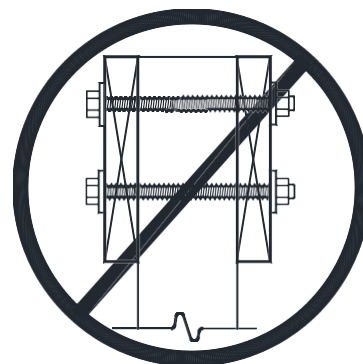

FIGURE 18: PROHIBITED CONNECTION
- Beams shall not be attached to the sides of an unnotched post as shown in **FIGURE 18**.